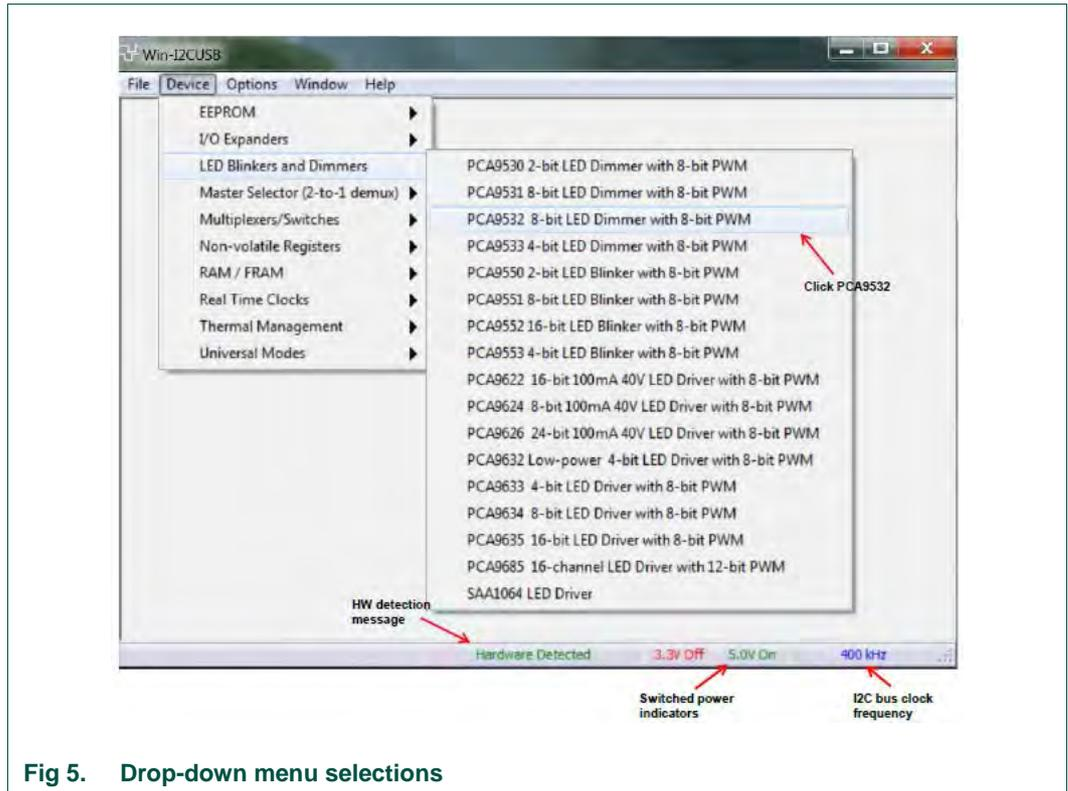

Fig 5. Drop-down menu selections
Connect the hardware as described in Section 4. The PCA9532 demo board address is set to 0xC0 on switch (SW1) as  $A[0:2] = SW1[4:2] = 000$  (0 -> ON, 1 -> OFF). When you have correctly installed the software and the demonstration board hardware is connected and recognized by the computer, start the Win-I2CUSB software. As shown in the Fig 5, when the demonstration board hardware is correctly connected to the USB port and the computer recognizes it, the message “Hardware Detected” is displayed on the bottom of the window.
1. From the ‘Device’ drop-down menus select ‘LED Blinkers and Dimmers’, and from the subsequent drop-down menu select ‘PCA9532 16-bit LED Driver with 8-bit PWM’ as shown in Fig 5.